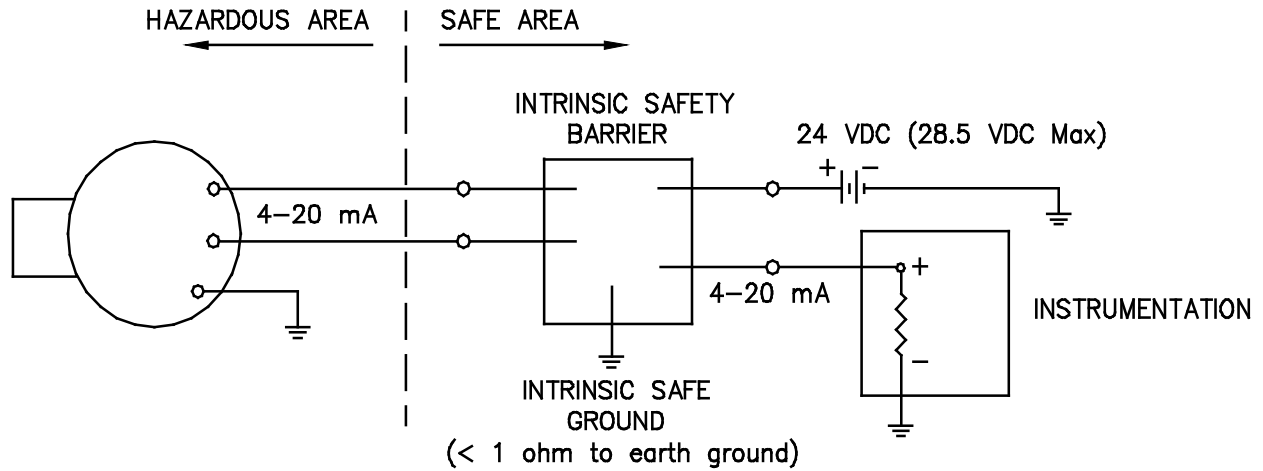

Figure 3 - Intrinsically Safe Installation
The second approach is an Intrinsically Safe (IS) installation (See Figure 3). In this approach, voltages and currents into the hazardous area are limited by specially designed IS barriers. The electronic equipment is designed so that energy storage devices (inductive or capacitive) in the electrical device cannot store sufficient energy to cause ignition of the gases to be found in the hazardous area.